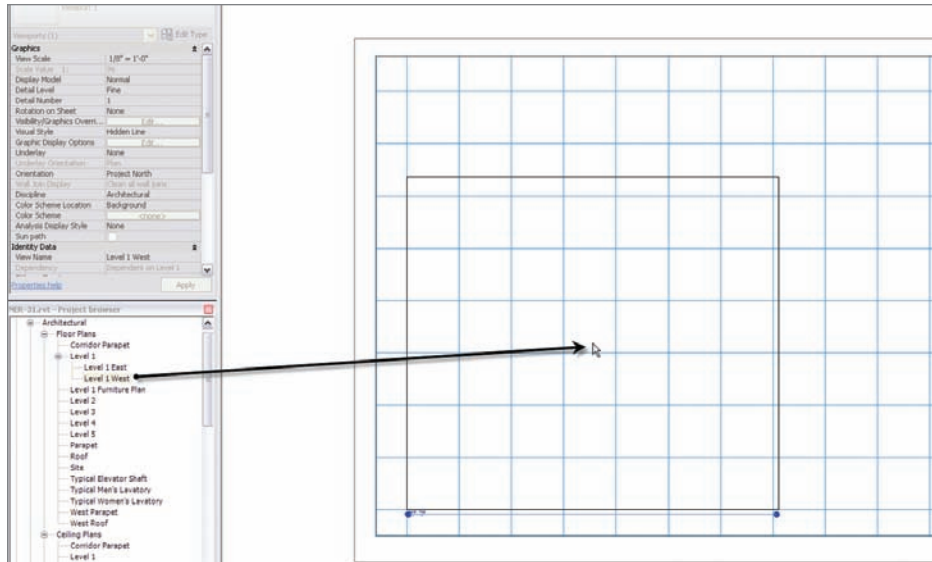

FIGURE 14.3 Dragging the view onto the sheet
5. In the Project Browser, find the dependent view called Level 1 West, as shown in Figure 14.3.
7. Drag the view onto the sheet, as shown in Figure 14.3.